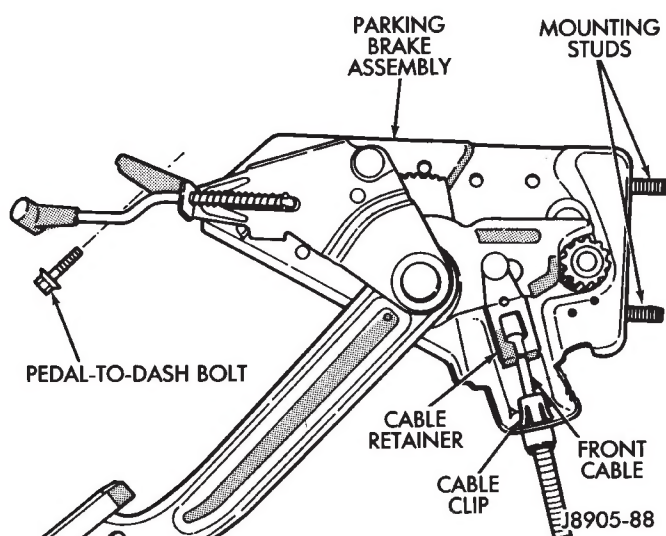

Fig. 14 Parking Brake Pedal Assembly (YJ)
- (3) Lower vehicle.
- (4) Remove dash-to-instrument panel brace rod, if equipped.
- (5) Disconnect warning light wire from parking brake switch on pedal assembly. Remove switch if replacement is necessary.
- (6) On some YJ models, a ground wire may be attached to upper end of bolt that secures parking brake pedal to instrument panel. Wire is secured with a nut. Be sure to remove nut and detach ground wire before proceeding. If this wire is not removed beforehand, wire and harness could be damaged when pedal assembly bolt is removed. Ground wire and attaching nut are accessible from under instrument panel.
- (7) Remove bolt securing pedal assembly to instrument panel (Fig. 14).
- (8) In engine compartment, remove pedal mounting stud nuts.
- (9) Remove pedal assembly from panel.
- (10) Disengage front cable from retainer (Fig. 14).
- (11) Squeeze cable clip (Fig. 14) and pull cable out of pedal frame.
- (12) Remove pedal assembly.